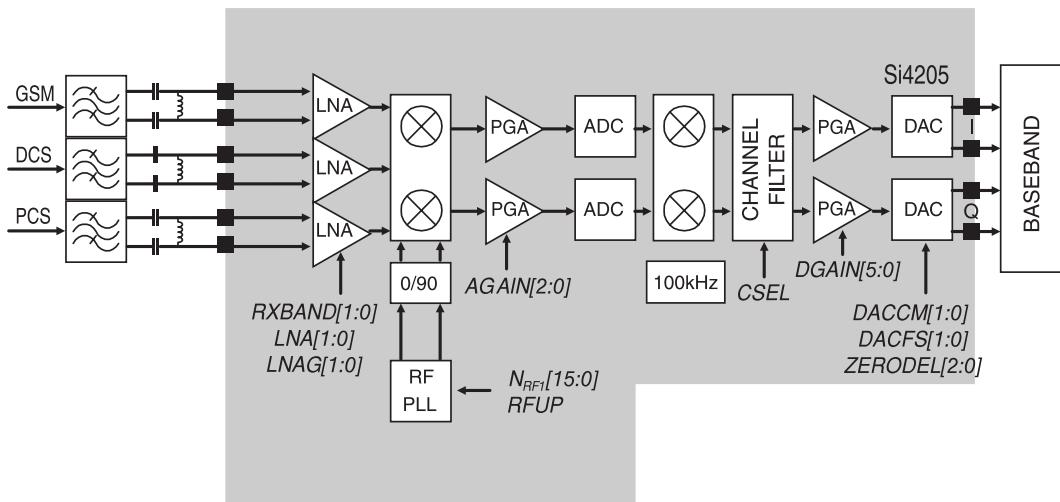

Figure 3-2. SI4205 RECEIVER PART
The LNA inputs are matched to the 150Ω balanced output SAW filters through external LC matching networks. The LNA gain is controlled with the LNAG[1:0] and LNAC[1:0] bits in register 05h (Figure 3-2).
B. Intermediate frequency (IF) and Demodulation
A quadrature image-reject mixer downconverts the RF signal to a 100KHz intermediate frequency (IF) with the RFLO from the frequency synthesizer. The RFLO frequency is between 1737.8 to 1989.9 MHz, and is internally divided by 2 for GSM 850 and E-GSM 900 modes. The mixer output is amplified with an analog programmable gain amplifier (PGA), which is controlled with the AGAIN[2:0] bits in register 05h (Figure3-2). The quadrature IF signal is digitized with high resolution A/D converters (ADCs).